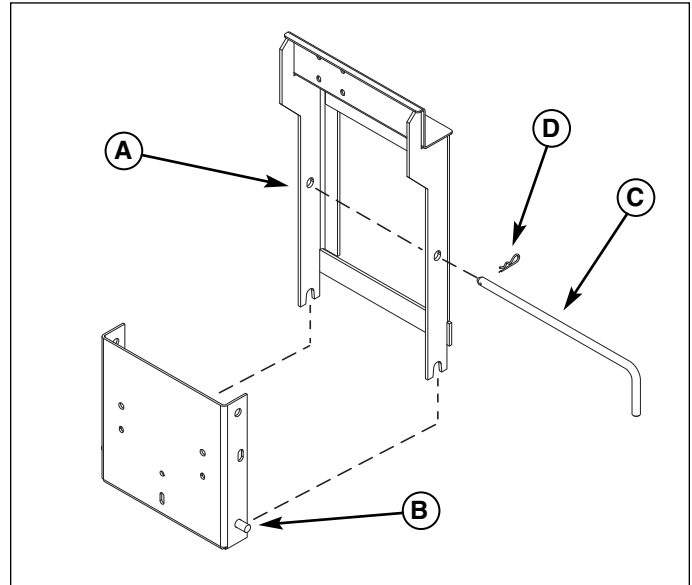

**Figure 6. Install Hitch Plate**
1. Place the hitch plate (A, Figure 6) onto the bumper (B) and loosely tighten with U-bolts (C) and locknuts (D).